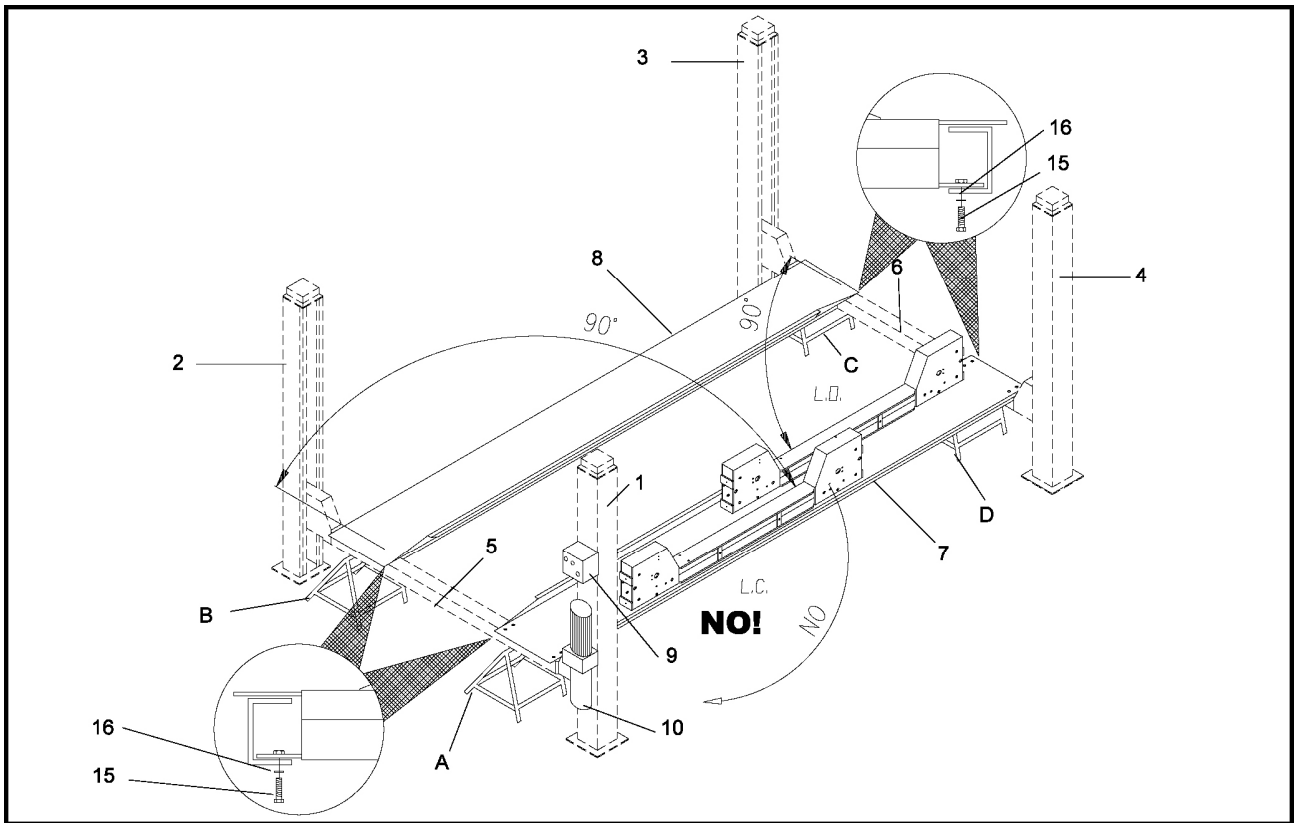

Fig.42
1 - Place 4 trestles of the same height and suitably sturdy to hold 250 kg each, in the area where you intend to install the lift. Position the trestles as shown in the figure 42 (A-B-C-D).
5 - Place the platform (8) on the cross-pieces (pos.5-6, fig.42).
Position the posts at the end of the cross-pieces (pos. 5-6, fig.42) Fit the safety rods (12) from the top of the posts, inserting them between the rear face of the cross-pieces (5-6) and the guide pins (13) as shown in figure 46.
Fig. 42: screw the nuts (25) and washers (26) onto the terminal blocks (19). During this procedure make sure that the sensors (17) are correctly positioned on the lifting cables (18) as shown in figure 48.